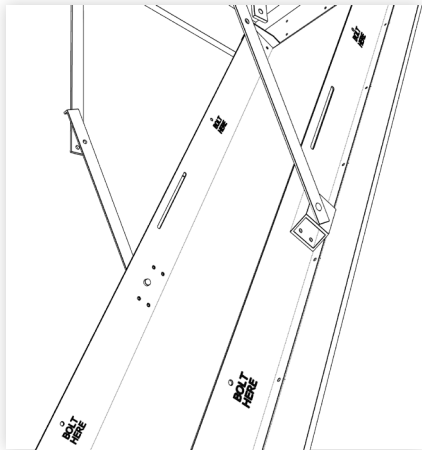

figure 11
4. There are 4x6mm holes in the base runners that are clearly marked "Bolt Here". Using a twist drill, drill through the marked holes and right through the stair stringers. Use the 6mm machine screws and nylok nuts supplied to fix through these holes. (figure 11)